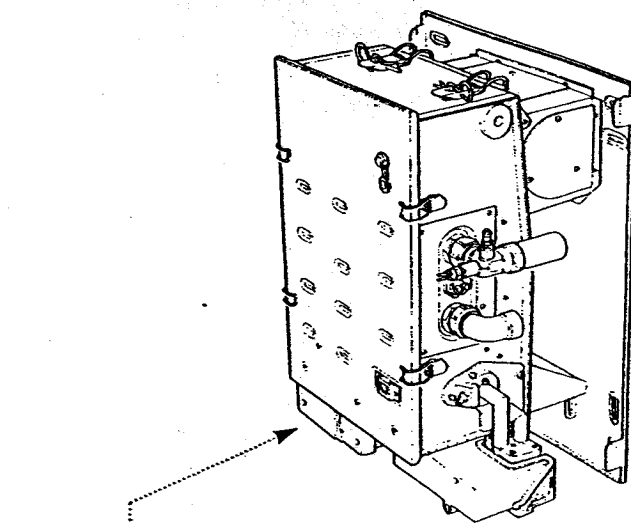

Fig. 72
1. Remove the cover from the control box by removing the 2 screws (Fig. 72).